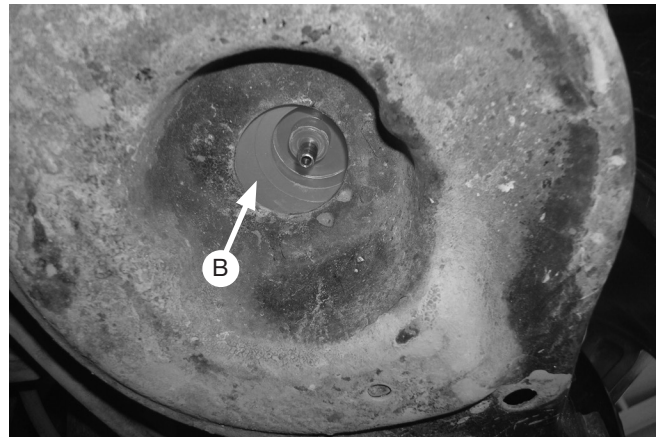

Fig. 4
- Push the air spring up to the top of the coil spring and insert the protector (B) through the side of the coil spring and under the air spring. Adjust the protector so the stem is in the middle of the center hole and push the cylinder down to the bottom of the coil spring (Fig. 4). Repeat installation for the other side.